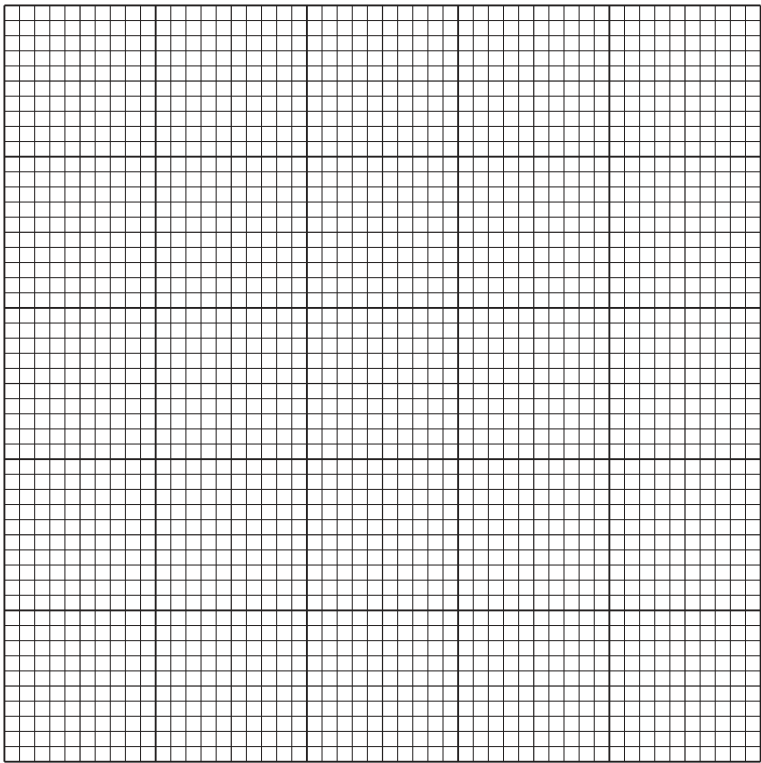

Fig. 1.3
- (i) Plot a graph of the data in Table 1.2 on the grid in Fig. 1.3.
- (ii) Describe the change in percentage concentration of sucrose shown by your graph in Fig. 1.3.